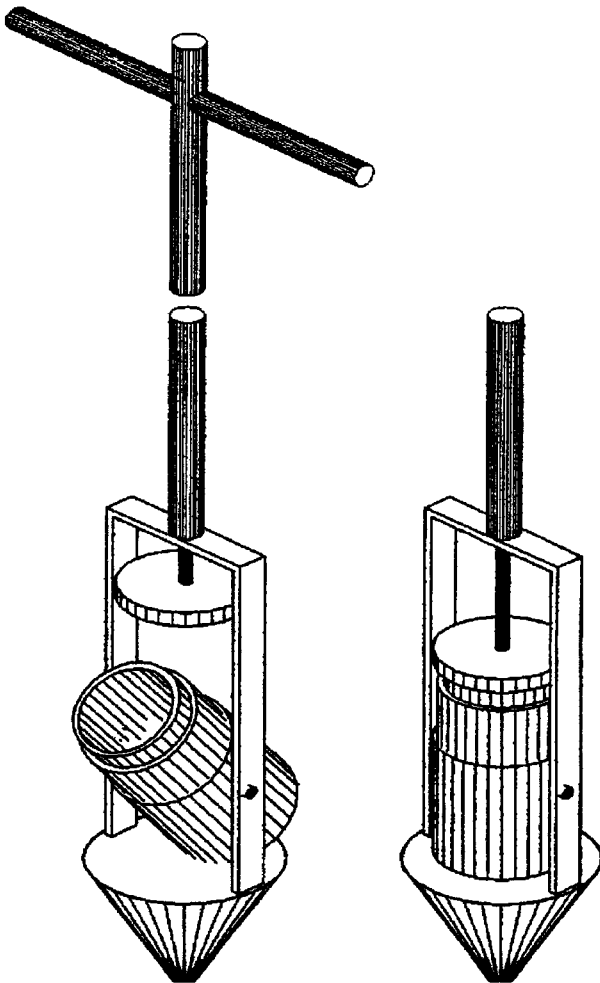

FIG. 9 Lidded Sludge/Water Sampler
6.9.1 Description—The lidded sludge/water sampler is a stainless steel sampling apparatus holding a 1-L glass jar. It consists of a jar with a lid, secured to the frame with a long T-handle. For samples containing more than 40 % solids, a cutter can be added to the jar to cut the sludge, allowing it to fall into the jar. Handle extensions with depth markings are available to allow sampling from difficult to access areas (see Fig. 9).